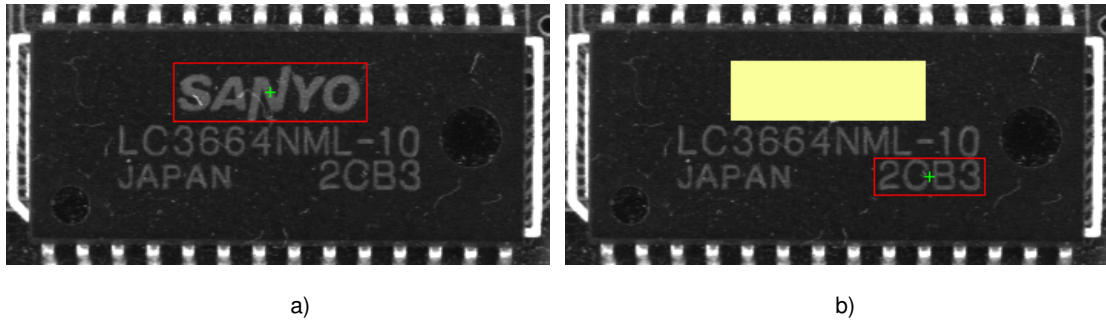

Figure 5.59: Drawing an ROI of rectangles.
You can modify the rectangle by dragging its sides or corners. Make the rectangle match the big label on the chip (see figure 5.59 a\).
- Repeat the last step to create another rectangle and make it match the lower part of the label (see figure 5.59 b\).